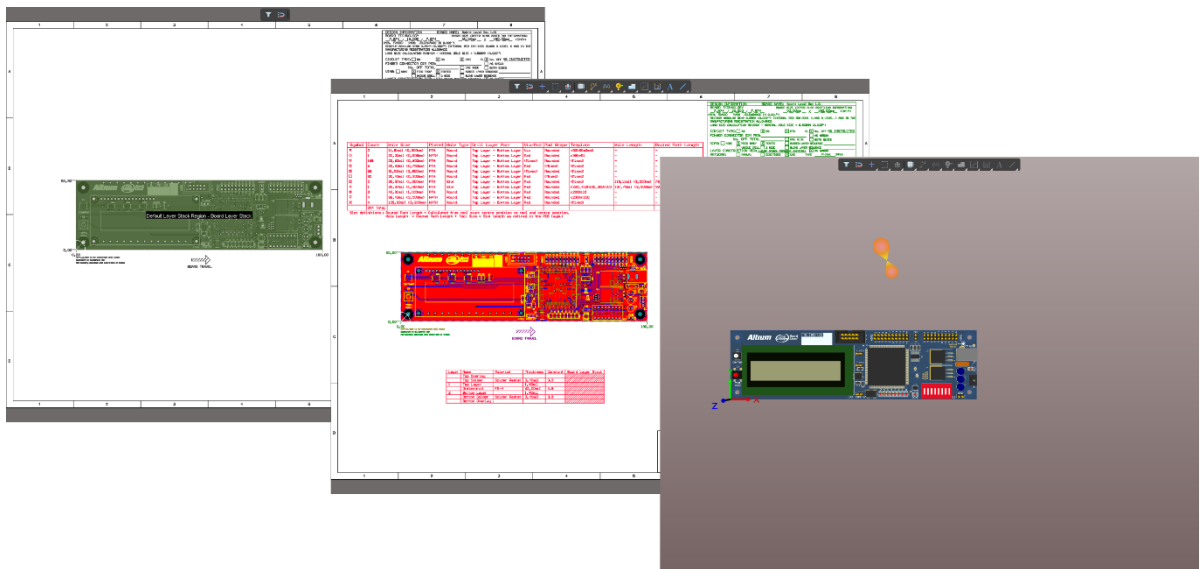

Figure 3. The three Viewing Modes, Board Planning Mode / 2D / 3D
10. Press **1** on the keyboard to switch to the Board Planning mode. You can find the command also in the View menu **View » Board Planning Mode**, Figure 3 left.
11. Press **2** on the Keyboard to switch to the 2D Mode. You can find the command also in the View menu, **View » 2D Layout Mode**, Figure 3 center.
12. Press **3** on the Keyboard to switch to the 3D Mode. You can find the command also in the View Menu, **View » 3D Layout Mode**, Figure 3 right.